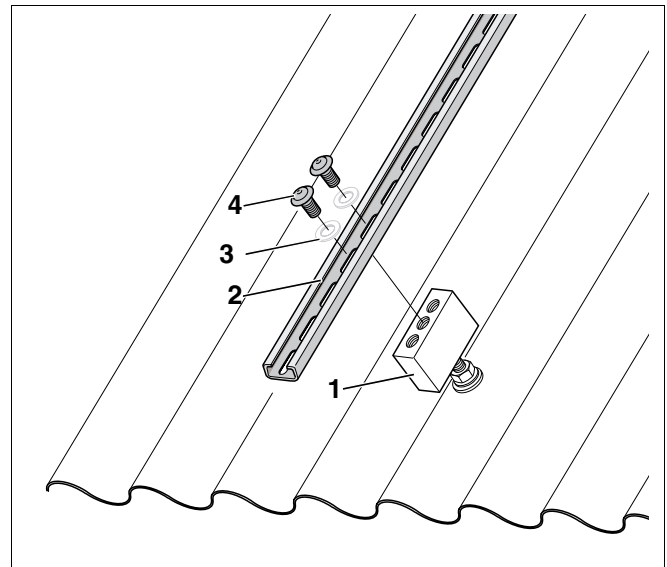

Fig. 8 Install the vertical profile rail (here: vacuum tube collectors)
- Position the vertical profile rails (Fig. 8, **Item 2**) onto the support blocks (Fig. 8, **Item 1**) and position them as centrally as possible.
- Secure each vertical profile rail with two Allen screws each (Fig. 8, **Item 4**).
- Utilise both outer tapped holes in the support blocks and use M8 washers (Fig. 8, **Item 3**).